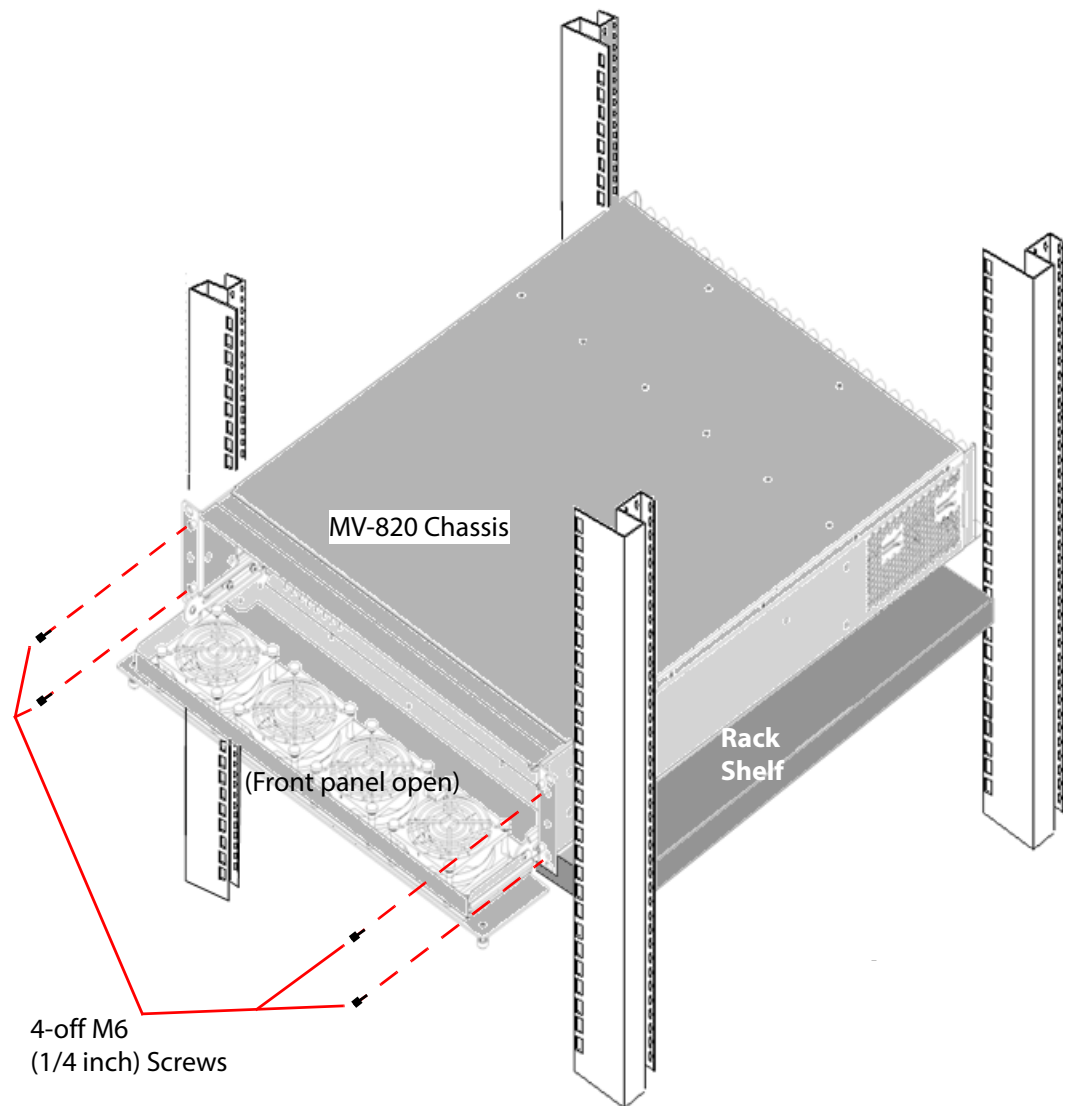

Figure 37 Rack Mounting MV-820 Multiviewer.
5. Secure the MV-820 Multiviewer chassis in the rack at each mounting hole using 4-off M6 (1/4 inch) screws. See Figure 37. (Screws are available from rack suppliers.)